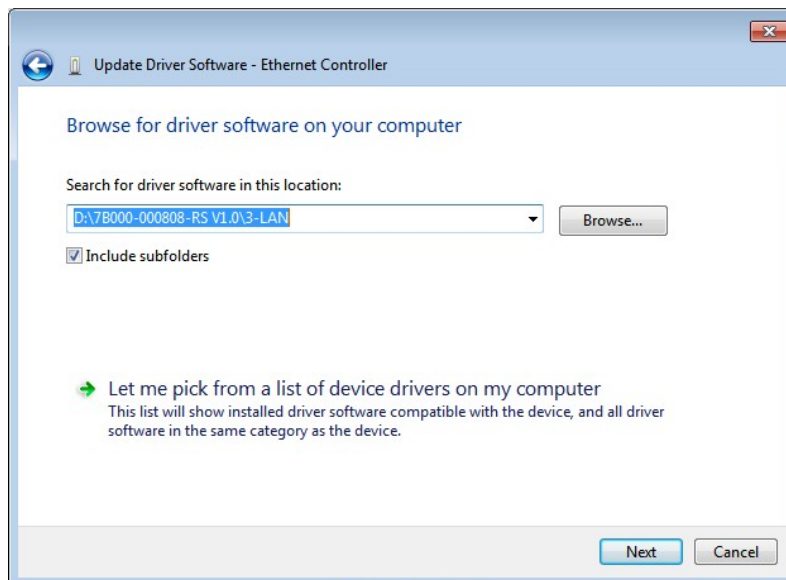

Figure 6-17: Locate Driver Files
Step 9: Click Browse to select “X:\3-LAN” directory in the **Locate File** window, where “X:” is the system CD drive. (Figure 6-17).